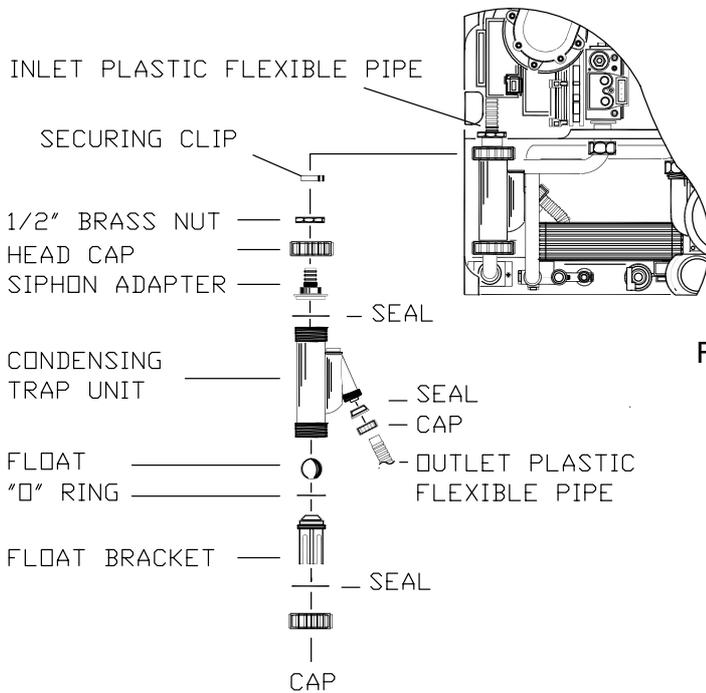

Fig.47
**8.26 TO REMOVE/REPLACE CONDENSING TRAP (Fig.47).**